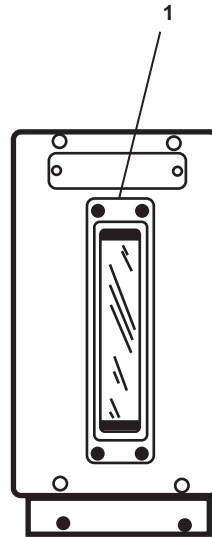

Figure 8. Lube Oil Tank Level Indicator
1. In the engine room, on the port bulkhead, verify that the remote Tank Level Indicator (TLI) (figure 8, item 1) for the lube oil tank is operational.
5. On the TLI receiver module (figure 8, item 1), observe the fluid level meter. When the tank is near full, direct the supplier to stop pumping.
- a. Verify that the remote TLI (figure 8, item 1), is operational.
3. Monitor the lube oil tank remote TLI (figure 8, item 1), and observe that the tank level decreases.